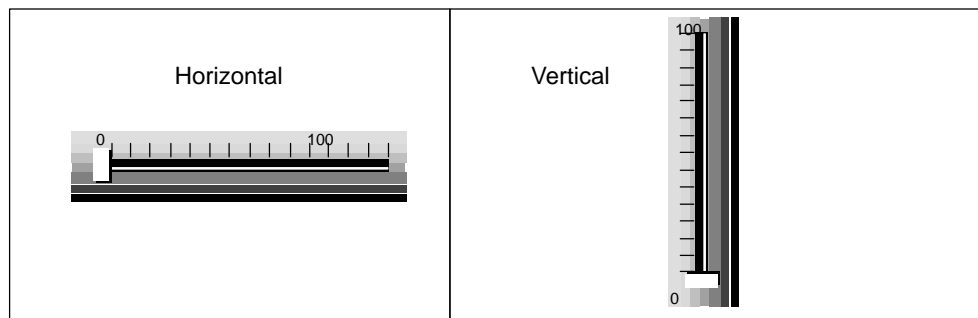

Figure 5-18 Orientation of the Slider Control
- **Direction:** Set the orientation (horizontal or vertical) of the control. See Figure 5-18.